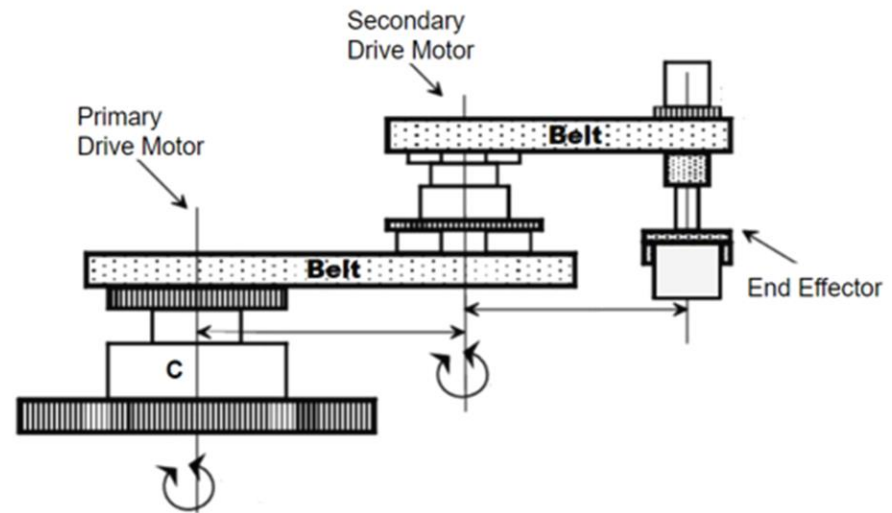

Figure 2 – System schematic
- the first and second independently operable drive motors are supported by a base which also contains a motor (Fig 2)
- this enables precise manoeuvrability of the end effector (Fig 2).